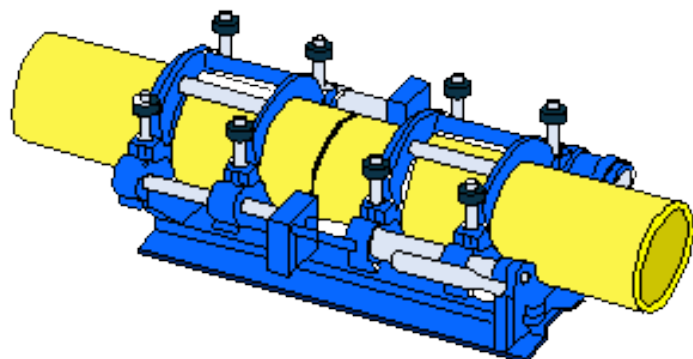

Figure E.5 – Cooling Period
36. When the automated fusion cycle is complete and the cooling time, as indicated on the machine, has elapsed, carefully remove the section of pipe containing the joint from the butt fusion machine see Figure E.5. **Fusion cooling times must not be aborted unless the joint is to be discarded.**